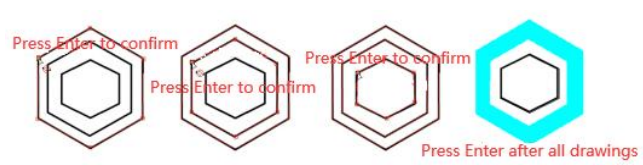

Figure 1
3. After drawing, press the "Enter" key to confirm. (As shown in Figure 1) For this type of object, we need to draw the middle part again with a "composite needle" and then press the "Enter" key to confirm.